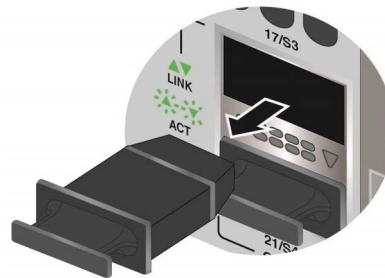

Figure 70. Removing the Dust Cover from a QSFP+ Transceiver Slot
1. Remove the dust cover from QSFP+ slot 17 or 21. Refer to Figure 70 on page 117.
1. Remove the dust cover from a QSFP+ slot in the switch. Figure 70 shows the removal of the dust cover from slot 17.